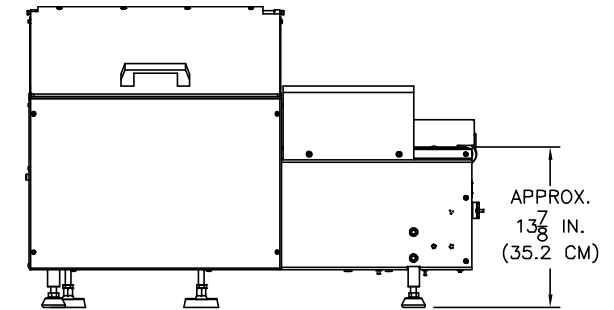

Figure 2-6. Height Adjustment
2. The top of the conveyor belt at the right end of the tilt infeed conveyor should be set to about 13-7/8" (35.2 cm) from the floor and level (Figure 2-6). Adjust the leveling pads as necessary.